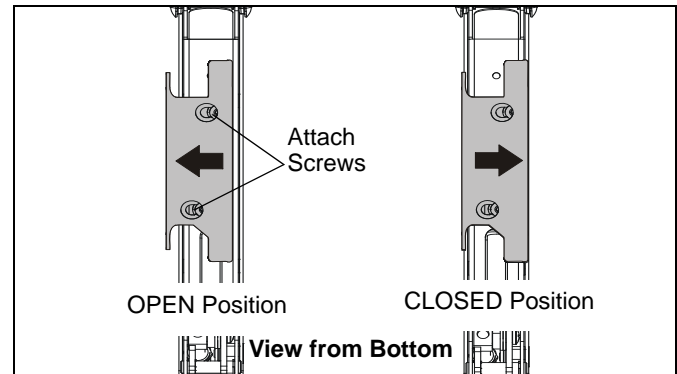

Figure 6
2. Open the cable management bracket by sliding it towards the edge of the arm. (See Figure 6)